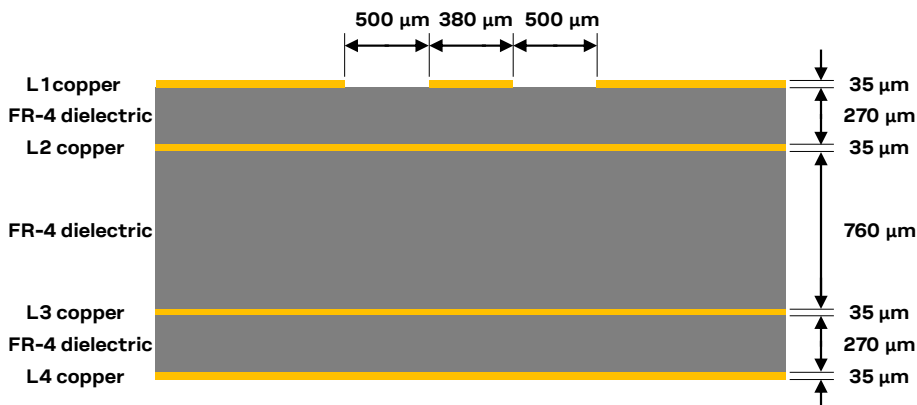
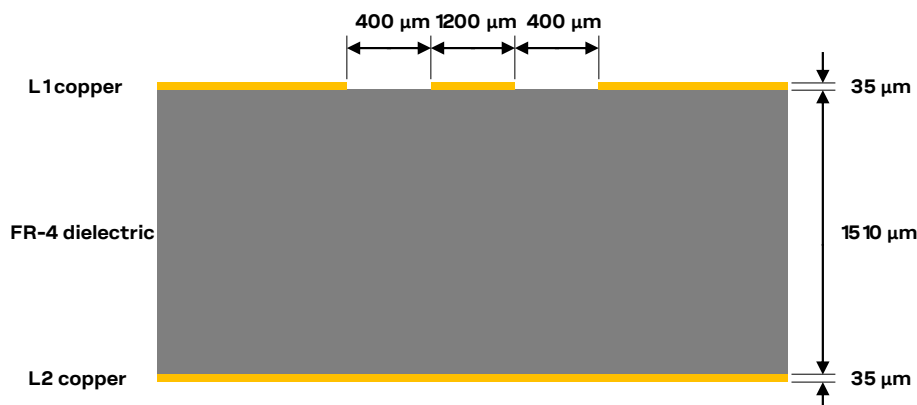

Figure 38: Example of 50 Ω coplanar waveguide transmission line design for the described 4-layer board layout
Figure 39: Example of 50 Ω coplanar waveguide transmission line design for the described 2-layer board layout
Figure 38 and Figure 39 provide two examples of suitable 50 Ω coplanar waveguide designs. The first transmission line can be implemented for a 4-layer PCB stack-up herein described, the second transmission line can be implemented for a 2-layer PCB stack-up herein described.
- the thickness of the transmission line itself (e.g. 35 μm in the example of Figure 38 and Figure 39)
- the thickness of the dielectric material between the top layer (where the transmission line is routed) and the inner closer layer implementing the ground plane (e.g. 270 μm in Figure 38, 1510 μm in Figure 39)
- the dielectric constant of the dielectric material (e.g. dielectric constant of the FR-4 dielectric material in Figure 38 and Figure 39)
- the gap from the transmission line to the adjacent ground plane on the same layer of the transmission line (e.g. 500 μm in Figure 38, 400 μm in Figure 39)